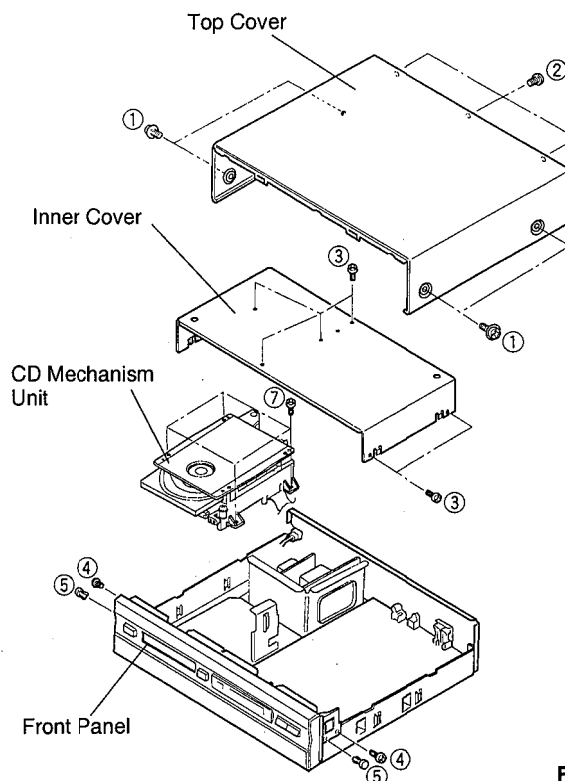

Fig. 1
- ① P.C.B. OPERATION (4)
- ② P.C.B. OPERATION (5)
- ③ P.C.B. MAIN
- ④ P.C.B. OPERATION (6)
- ⑤ CD MECHANISM UNIT
- ⑥ P.C.B. OPERATION (8)
- ⑦ P.C.B. OPERATION (7)
- Remove 4 screws (①) also 3 screws (②) in Fig. 1.
- Remove 6 screws (③) in Fig. 1.
- Remove 2 screws (④) and 2 push rivets (⑤) in Fig. 1.
- Remove 4 screws (⑦) in Fig. 1.